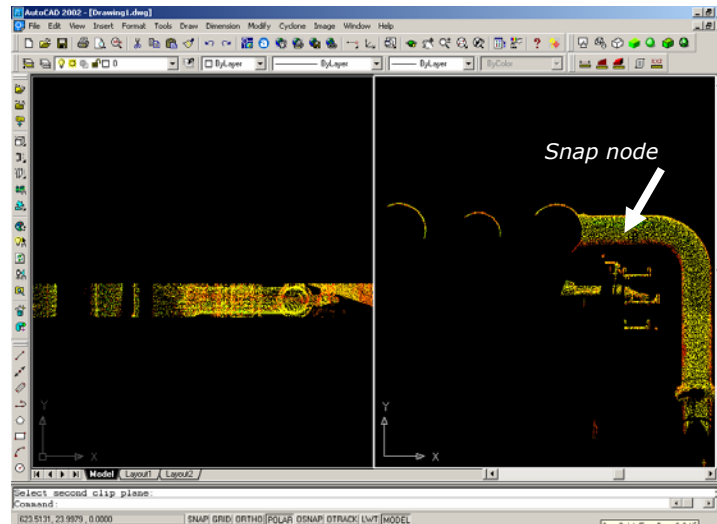

Figure 8.
9. Zoom in to the main piping structures, as in *Figure 8*.
12. Snap to a node on the point cloud to serve as the “seed point”, for example, see *Figure 8*. A cylinder will be “grown” from this pick point.